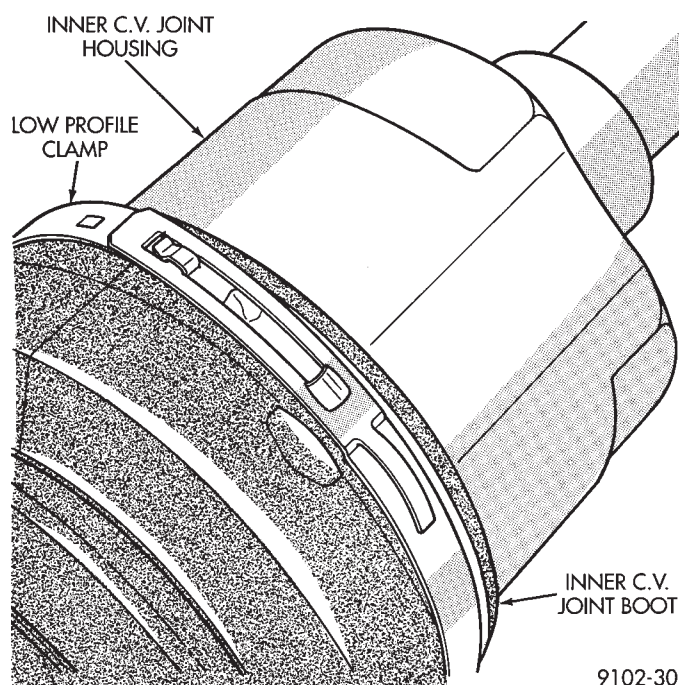

Fig. 1 Boot Clamp Installed
(1) Install small clamp and inner C/V joint housing according to the procedures outlined in this manual.
(2) Position the boot over the outer C/V joint.
(3) Slide the large band clamp over the boot and position it evenly in the groove on the inner C/V joint boot. (Fig. 1).